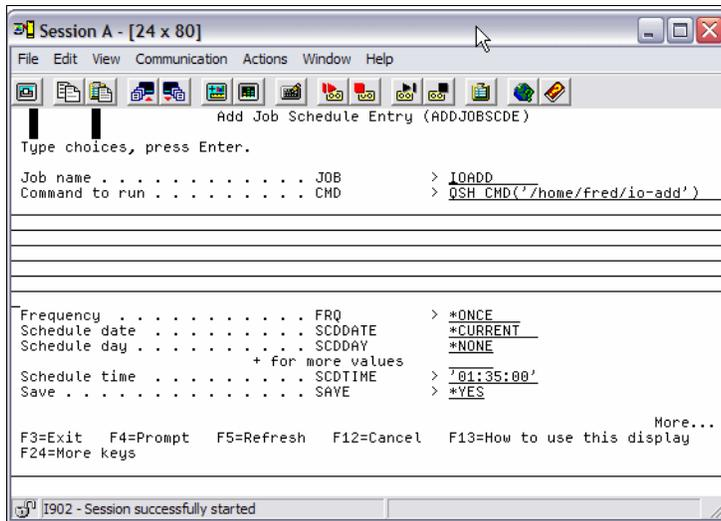

Figure 11-38 `io-add-scheduled`
- ▶ Enter the `qsh` command in the **Command to run** field as shown in Figure 11-38 and press Enter.